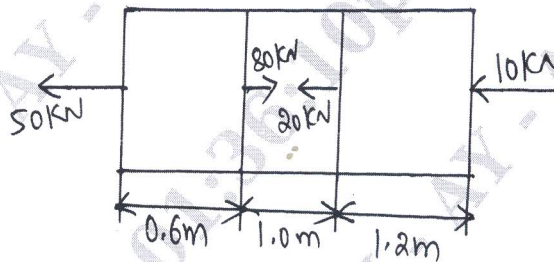

Fig Q2(b)
- b. A brass bar having cross sectional area of  $1000\text{mm}^2$ , is subjected to axial forces shown in Fig Q2(b), Compute the total elongation of the bar. Take  $E = 100\text{GN/m}^2$ .